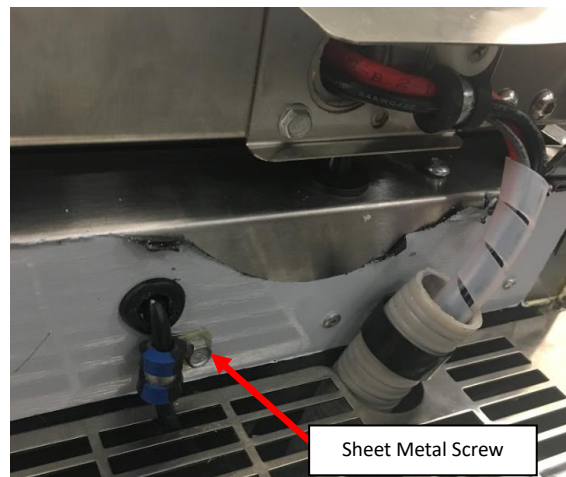

Figure 117b: P-Clamp mounted with screw.
- iv. Align the Mounting Holes on the P-Clamp with the pilot hole and secure the P-Clamp with the #10 Sheet Metal Screw provided with a 5/16" Hex Drive Screwdriver. **See Figure 117b.**